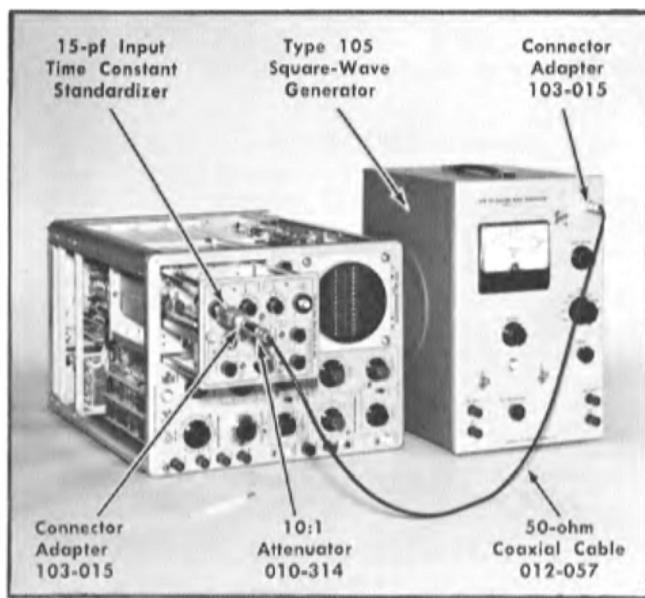

Fig. 5-6. The manner in which the Type 105 Square-Wave Generator should be connected to the Type 82 to perform the first part of step 24.
Turn on the Type 105 Square-Wave Generator, or equivalent. Set the generator for an output frequency of 2.5 kc and its output amplitude to minimum. Connect an adapter (Part No. 103-015) to the Output connector of the Type 105. Connect a coaxial cable (Part No. 012-057) to the adapter. To the other end of the cable, connect a 10:1 attenuator (Part No. 010-314), another adapter (Part No. 103-015), and a 15-pf input time constant standardizer [item 5]—in that order—to the Channel B INPUT connector. Fig. 5-6 shows the complete setup.
This step is similar to step 24. Therefore, use the information given in step 24 when performing this step. To make the adjustments, set the Type 82 MODE switch to A ONLY. Use the same setup as that shown in Fig. 5-6 except the signal must be applied to Channel A INPUT connector. (SN 101-2999, If you have constructed a metal shield, item 9, install the shield over the protruding part of the Type 82 so the access holes are positioned over the Channel A input-capacitance and attenuator adjustments.)